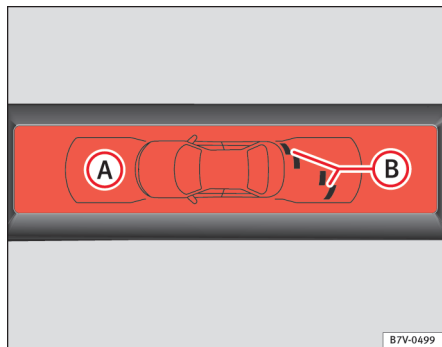

Fig. 143 On-screen OPS display: (A) an obstacle has been detected in the segment. (B) zone recorded behind the vehicle.
The zone in which obstacles are recognised runs to a distance of around 120 cm from the front of the vehicle and up to 60 cm to the side ⇒ fig. 143 (B). Behind the vehicle, the zone analysed reaches a distance of up to 160 cm and around 60 cm to the sides ⇒ fig. 142 (C).
The image displayed represents the supervised zones in several segments. As the vehicle moves closer to an obstacle, the segment moves closer to the vehicle displayed (B) and ⇒ fig. 143 (A). When the penultimate segment is displayed, this means that the vehicle has reached the collision zone. **Stop the vehicle!** ▶